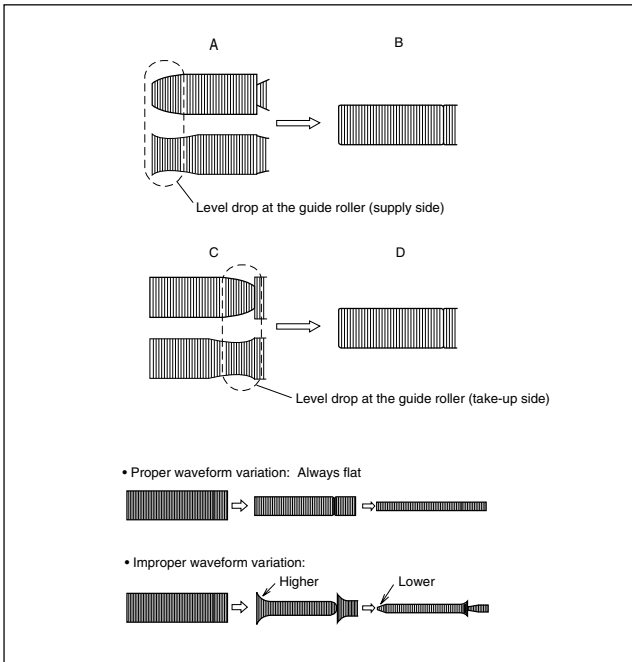
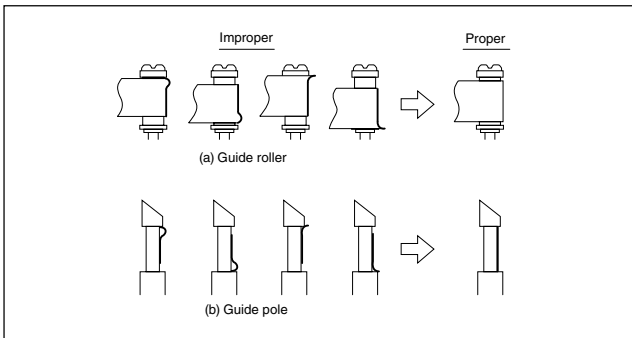

Fig. 2-3-1c
Fig. 2-3-1d
- (5) Reduce the V.PB FM waveform by the tracking operation. If a drop in level is found on the left side, turn the guide roller of the pole base assembly (supply side) with the roller driver to make the V.PB FM waveform linear. If a drop in level is on the right side, likewise turn the guide roller of the pole base assembly (take-up side) with the roller driver to make it linear. (See Fig. 2-3-1c.)
- (6) Make sure that the V.PB FM waveform varies in parallel and linearly with the tracking operation again. When required, perform fine-adjustment of the guide roller of the pole base assembly (supply or take-up side).
- (7) Unload the cassette tape once, play back the alignment tape (A1) again and confirm the V.PB FM waveform.
- (8) After adjustment, confirm that the tape wrinkling does not occur at the roller upper or lower limits. (See Fig. 2-3-1d.)